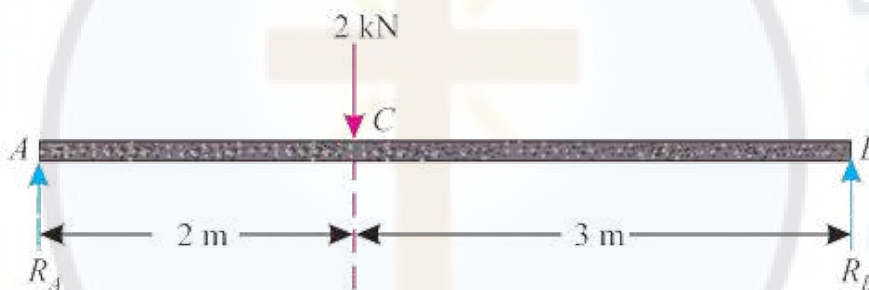

Figure 4
- (b) A beam AB of span 5 metres as shown in Figure 4 is carrying a point load of 2kN at a distance 2 metres from A. Determine the beam reactions, by using the principle of the virtual work. (5 Marks)